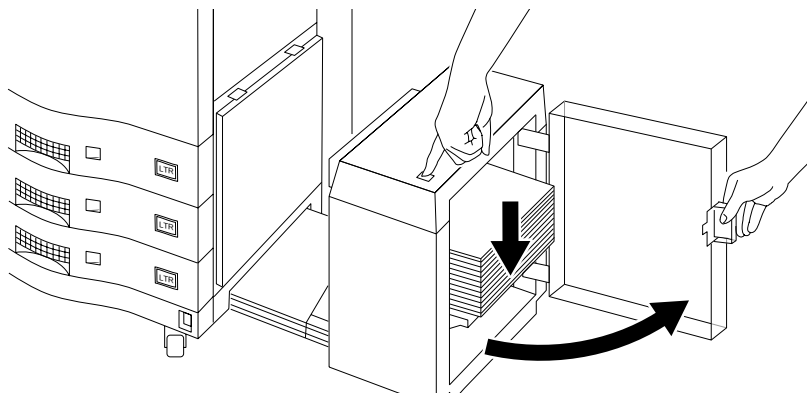

Figure D-2 Opening the HCI
Step 4 Open the HCI door, press the HCI top button to lower the shelf, and then remove any paper. See Figure D-2. The printer must be powered on and the HCI must be connected to the printer for the HCI top button to lower the shelf.